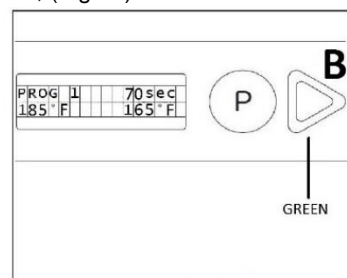

Fig.12
- When the machine reaches the correct temperature and it is ready to start a new cycle, GREEN indicator light is visualized on button “B”, (Fig.12)